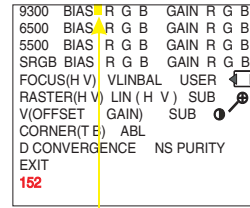
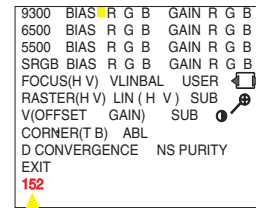

Fig. 2.2
Fig. 2.3
Step 1: To select the character "FACTORY MODE" as shown in Fig. 2.1, press "F4" to access the OSD menu for R/G/B gain & cutoff as shown in Fig. 2.2.
Step 2: Press "F4" for function selection as shown in Fig 2.3.
Step 3: Use "←→" to increase or decrease the value as shown in Fig. 2.3.
: Select the character "FACTORY MODE" to access the R/G/B adjustment as shown in Fig. 2.2 and Fig. 2.3.
7.6 : Select the 6500K colour temperature as shown in Fig. 2.2.
7.7 : Select the 5500K colour temperature as shown in Fig. 2.2.